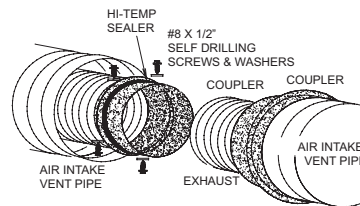

FIGURE 59
6. If more flexible vent pipe needs to be used to reach the fireplace, coupler them together as illustrated in **Figure 59**. The vent system must be supported approximately every 3 feet for both vertical and horizontal runs. Use noncombustible strapping to maintain the minimum 1" clearance to combustibles.